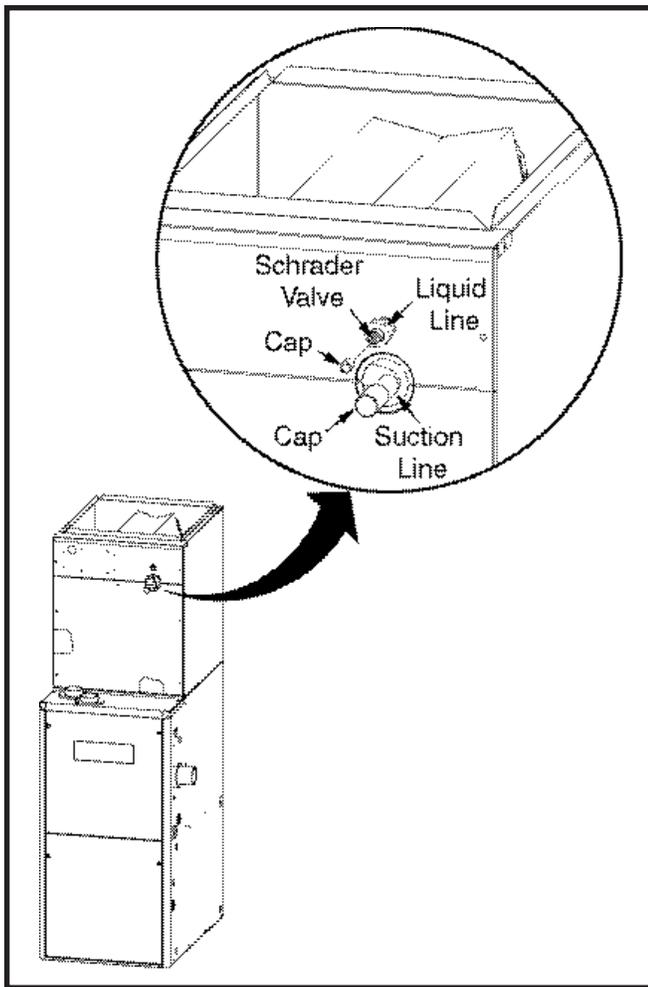

Figure 2. Suction & Liquid Line Locations
1. Remove the cap (Figure 2, page 4) from the end of the liquid line.